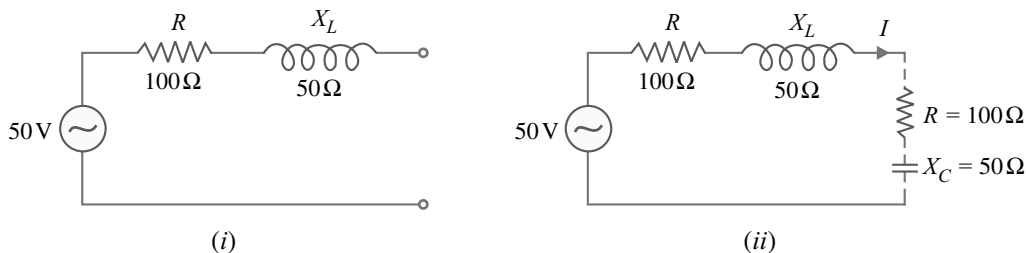

Fig. 1.25
**Example 1.9.** For the a.c. generator shown in Fig. 1.25 (i), find (i) the value of load so that maximum power is transferred to the load (ii) the value of maximum power.
(i) In a.c. system, maximum power is delivered to the load impedance ( $Z_L$ ) when load impedance is conjugate of the internal impedance ( $Z_i$ ) of the source. Now in the problem,  $Z_i = (100 + j50)\Omega$ . For maximum power transfer, the load impedance should be conjugate of internal impedance i.e.  $Z_L$  should be  $(100 - j50)\Omega$ . This is shown as dotted line in Fig. 1.25 (ii).